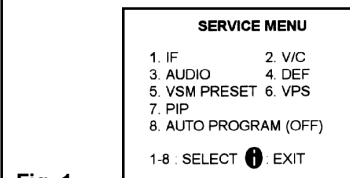

Fig. 1
2) The SERVICE MENU screen shown in Fig. 1 will be displayed.